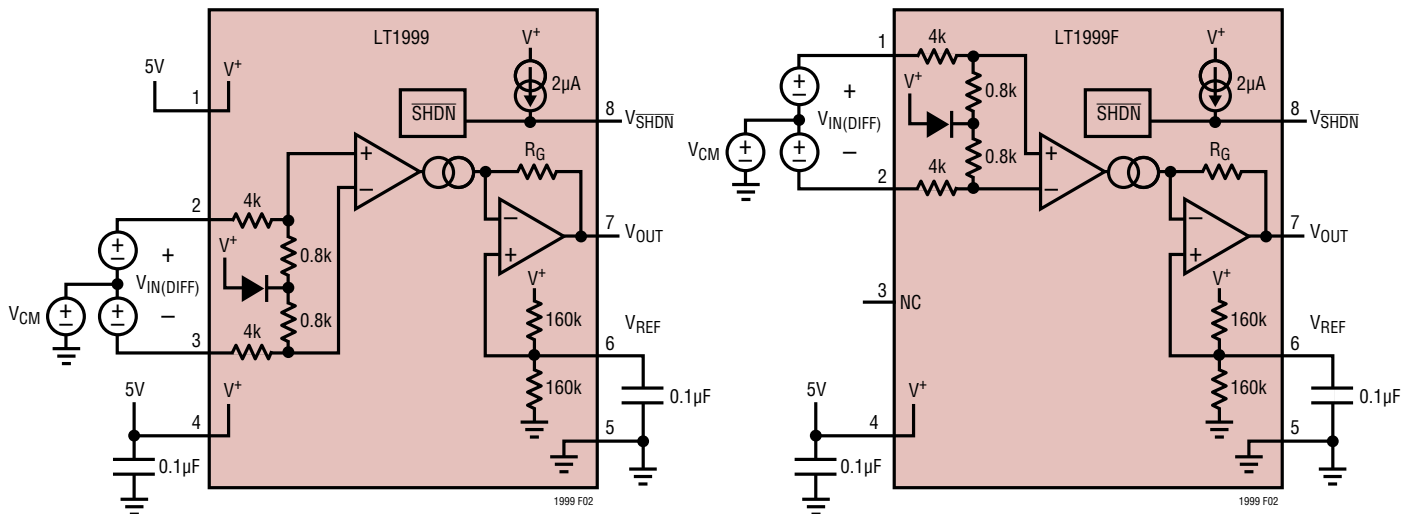

Figure 2. Test Circuit
**ELECTRICAL CHARACTERISTICS** The ● denotes the specifications which apply over the full operating temperature range,  $-55^{\circ}\text{C} < T_A < 150^{\circ}\text{C}$  for MP-grade parts, otherwise specifications are at  $T_A = 25^{\circ}\text{C}$ .  $V^+ = 5\text{V}$ ,  $\text{GND} = 0\text{V}$ ,  $V_{\text{CM}} = 12\text{V}$ ,  $V_{\text{REF}} = \text{floating}$ ,  $V_{\text{SHDN}} = \text{floating}$ , unless otherwise specified. See Figure 2.
The purpose of the FMEA is to emulate single faults and determine whether or not they are destructive and/or lead to conditions which could damage surrounding components. The LT1999-XXF is configured as shown in Figure 2, with an input common mode of either  $12V$  or  $0V$ . Each pin is systematically shorted to its adjacent pin (emulating solder bridging) and the resulting effects recorded. Each pin is then opened (emulating a cold solder joint) with the resulting effects recorded.